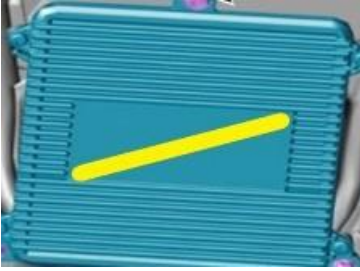

Figure 7
- Apply a yellow paint line as shown in Figure 7